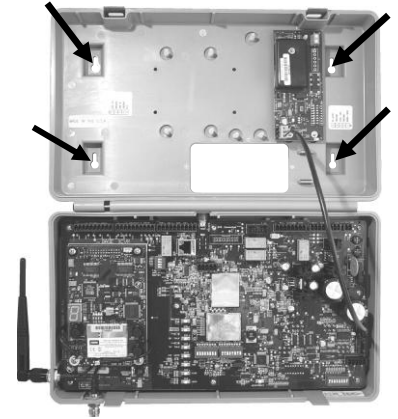

Figure 13. Open base station showing four screw holes
- Hold the base station against the wall at the desired mounting location, with its door open, and mark the wall through the four screw holes on the back of the cabinet, shown in Figure 13.